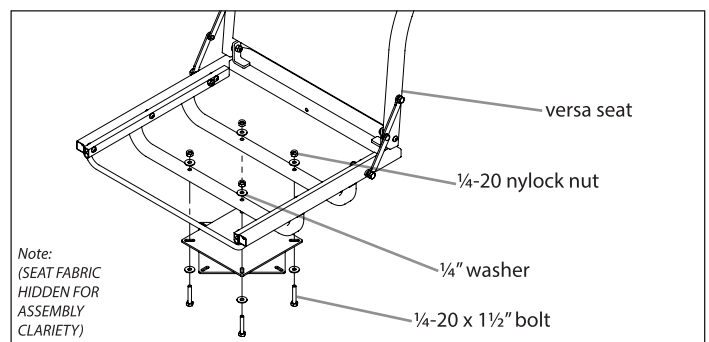

FIGURE 4
7. Locate the included Versa Seat (15004), (1) small parts bag (15752) and the (1) swivel (15016). Attach the swivel (15016) to the Versa Seat (15004) using (4) ¼-20 x 1½" bolts, (8) ¼" washers and (4) ¼-20 nylock nuts. **SEE FIGURE 4**